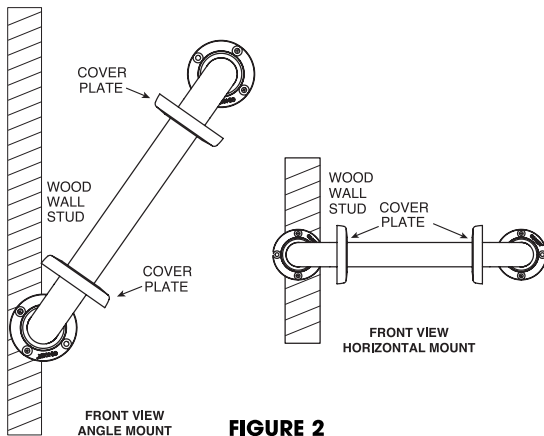

FIGURE 2
Grab Bar may be installed vertically, horizontally or at an angle, so long as at least two (2) of the three (3) mounting SCREWS on at least one end of the Grab Bar are secured into a wall stud (see Figure 2). Locate the wall studs behind the wall before beginning installation (a stud finder can be obtained from a hardware store).